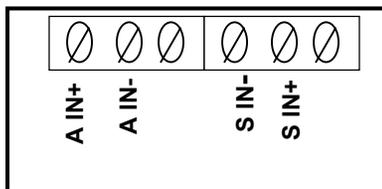

Figure 20
6. Insert the sensor's DC common wire into the **COMMON** terminal and secure the wire by turning the terminal's screw clockwise. (*Refer to the MX001 box or to Figure 20 for the order of the terminals for the sensor wires.*)